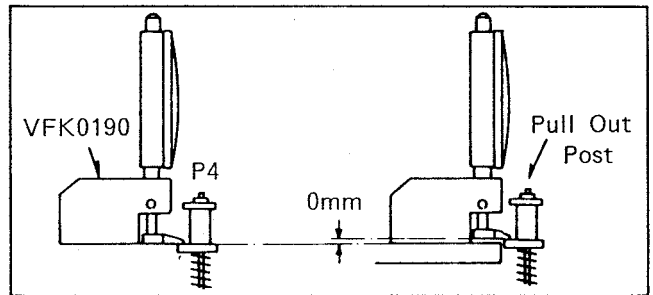

Fig. M6
3. Place the Reel Table Height Gauge on the tape guide post P4, lower the scraper so that it touches the lower edges of P4, then set the gauge to zero ("0"). (Fig. M6)
5. Slowly turn the nut on the post counterclockwise until the gauge reads 0mm. (Fig. M6)